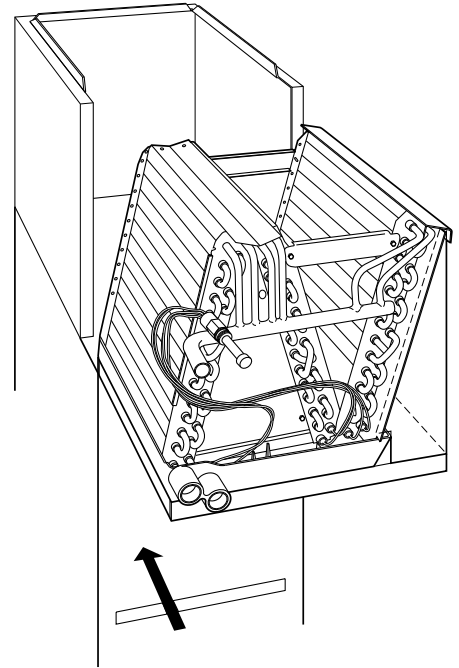

Fig. 4—Placing N-Coil Assembly Into Casing
3. Place casing or plenum on furnace. If casing is used slide coil assembly in until rear seal contacts rear panel of enclosure. (See Fig. 4.)